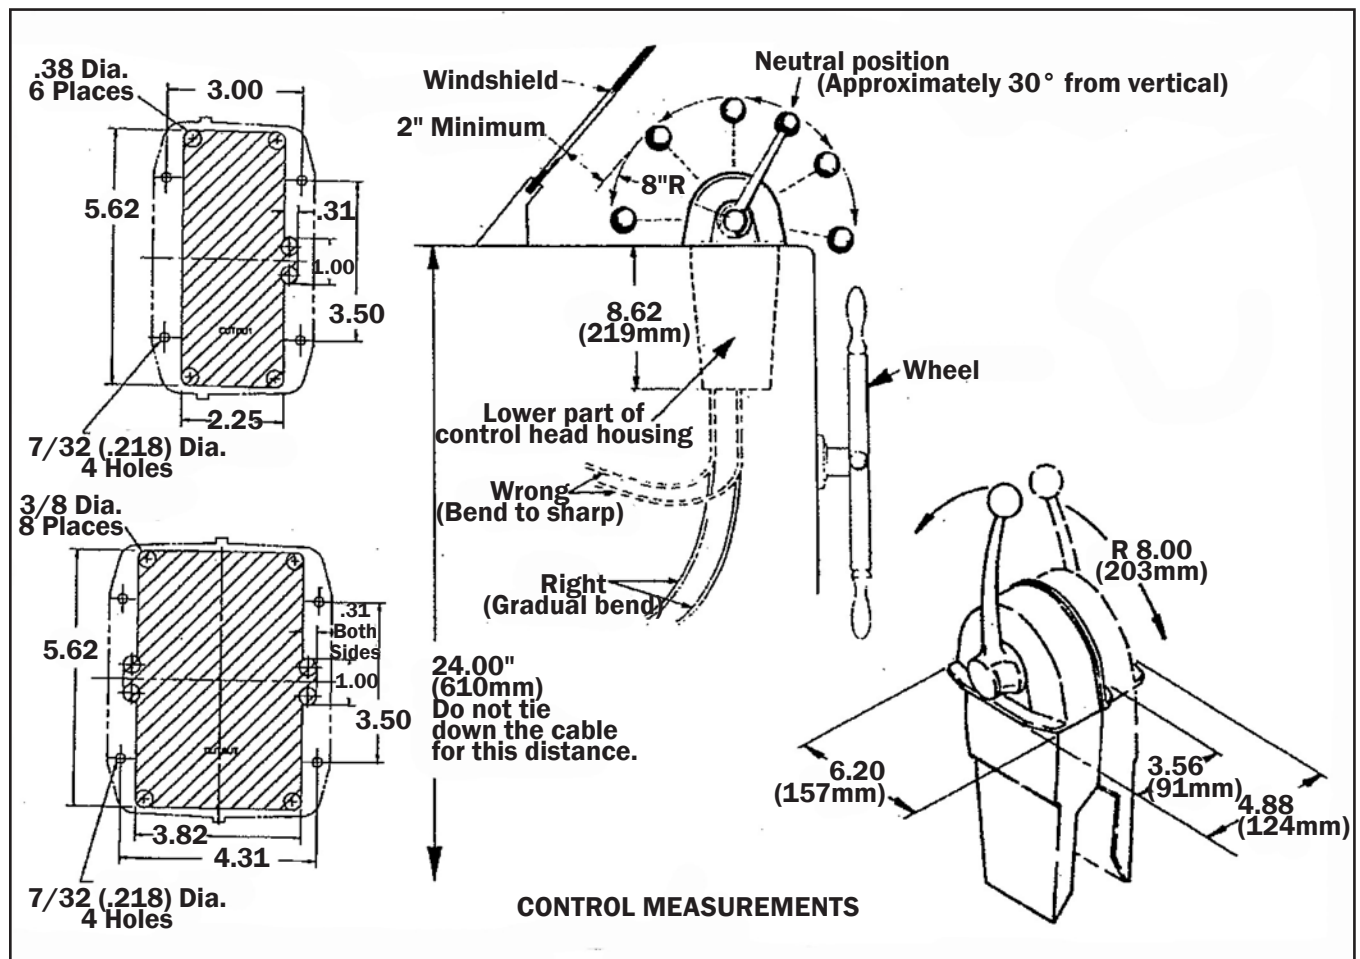

Figure 1.
**STEP 2.** Allow adequate clearance under the console for the cables. Refer to Figure 1.